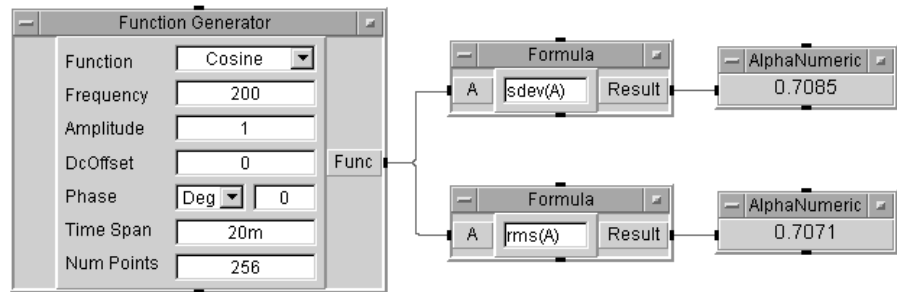

Figure 117 Formula Examples Using VEE Functions
- 5 Run the program. The program displays the same answers when these functions are put into the Formula object as it did when they were used as independent objects, as shown in Figure 117.